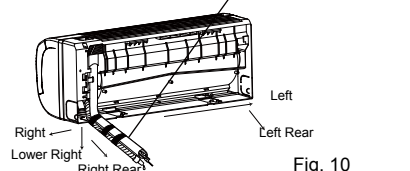

Fig. 10
2. Pull out the fitting pipe from bottom case. Use adhesive tape to bondage the fitting pipe, electrical cable and drain hose properly and then pass them through the fitting pipe hole (See Fig. 10).